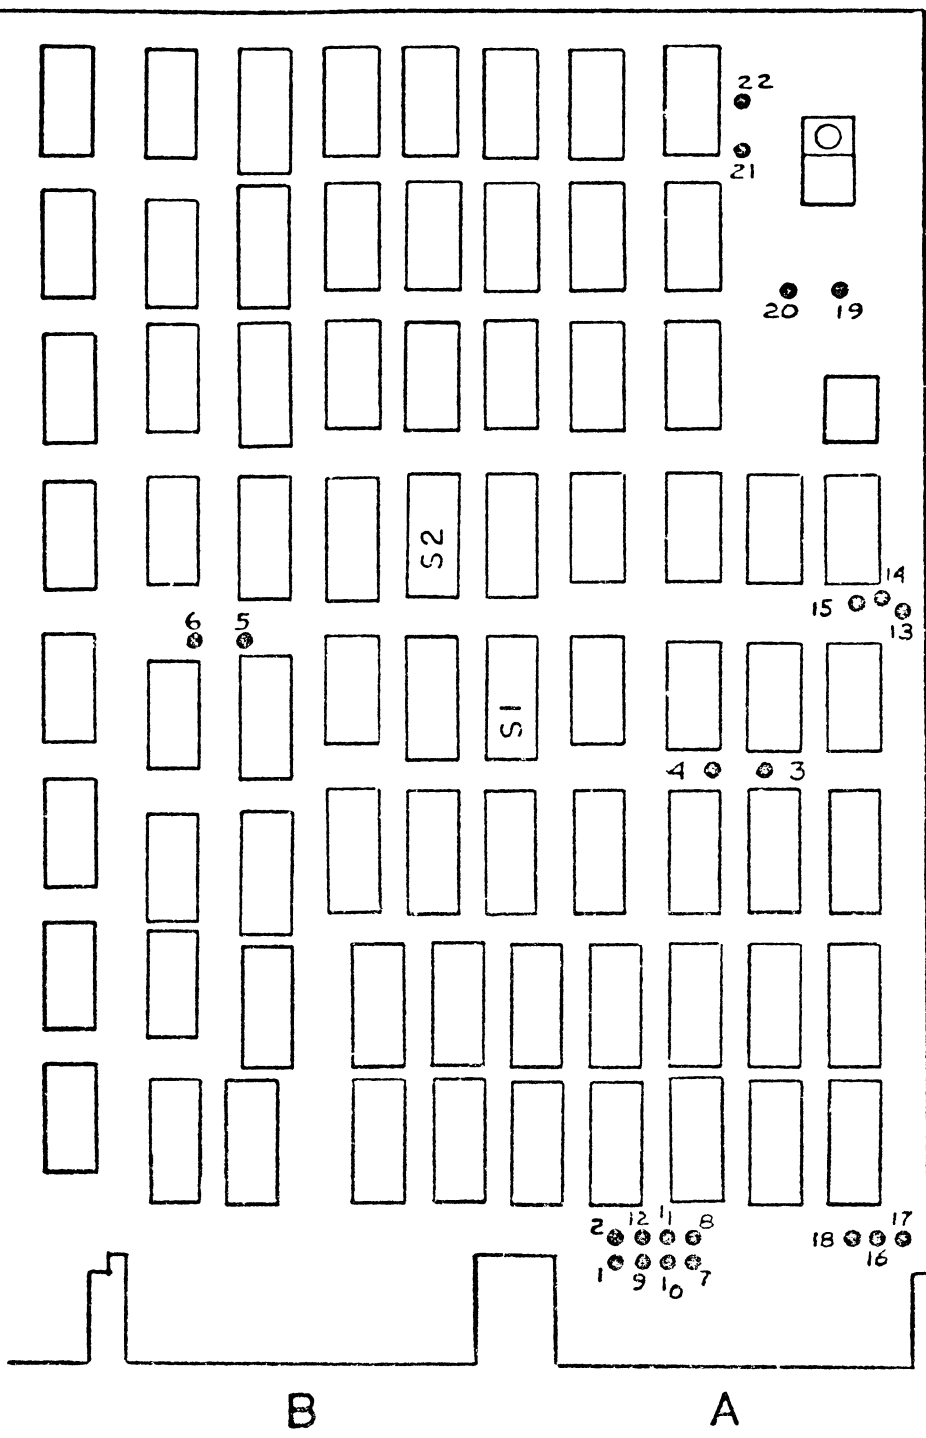

FIGURE 1
① Refer to Jumper Designator Chart (Table 3) and Jumper Connection Location Diagram (Figure 1).
① See Figure 1 for Jumper Connection Locations.